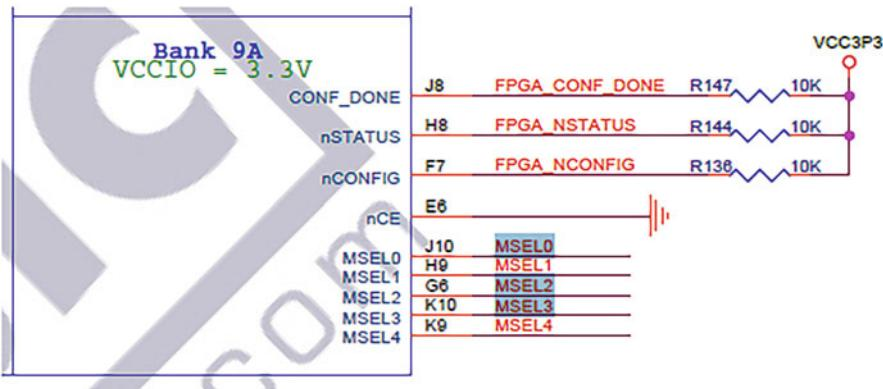

Fig. 4.3: The MSEL pins (MSEL[4:0]) on the FPGA tell the FPGA Control Block what configuration mode to use
3. **HPS**, i.e., configured from the Hard Processor System via U-boot when Linux boots. **We will primarily be configuring the FPGA through the HPS** in this book. When the FPGA is configured through the HPS, there are 12 possible configuration modes. Two modes (out of 12 modes) that you will use are listed below. The other modes can be seen in Table 5-1 (page 5-5) in Intel's Cyclone V Hard Processor System Technical Reference Manual [7]. Five pins on the FPGA (see Fig. 4.3), called the *mode select (MSEL)* pins, tell the Control Block inside the FPGA what HPS configuration mode to use.